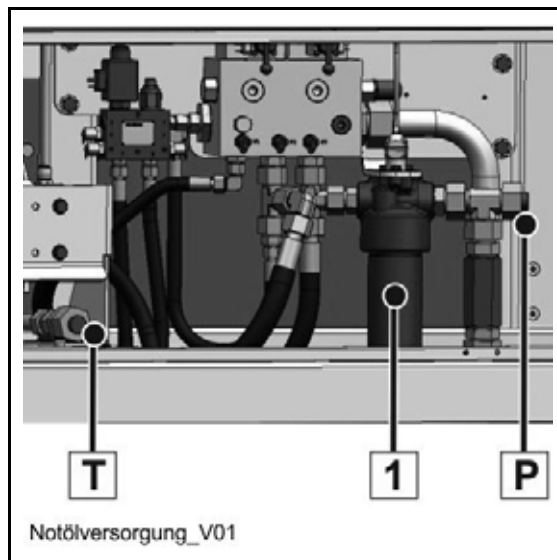

Fig. 225 Emergency oil supply (similar to illustration)
The connections are located near the pressure filter (1) (**Fig. 225**). The pressure filter is installed in the control cabinet next to the boom control block on the right side of the machine.